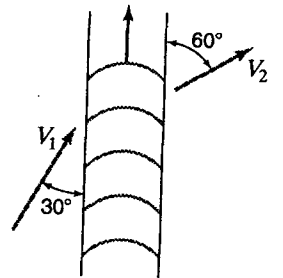

Figure P6.34
6.35 A 60-mm-diameter air jet impinges on a series of blades, entering smoothly, and having absolute velocities  $V_1 = 60$  m/s and  $V_2 = 45$  m/s as shown in Fig. P6.34. Assume  $\gamma = 11$  N/m3, that the pressure is the same on both sides, and neglect friction. (a) What is the velocity of the blades and the power being transmitted to them? (b) Determine the blade angles necessary at entrance and exit.